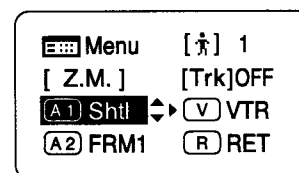

Fig. 5-1
2. After using the control key to select the name of the switch key to which the function is to be allocated, push the Set key. The name of the switch and the default or last setting now blink on the display. (Fig. 5-1)